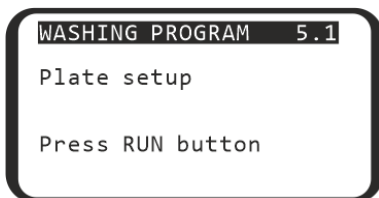

Figure 14. Plate setup
- Press the **Enter ▼** key in the start mode, then the **Run/Stop** key, and the following message appears on the display (figure 14).